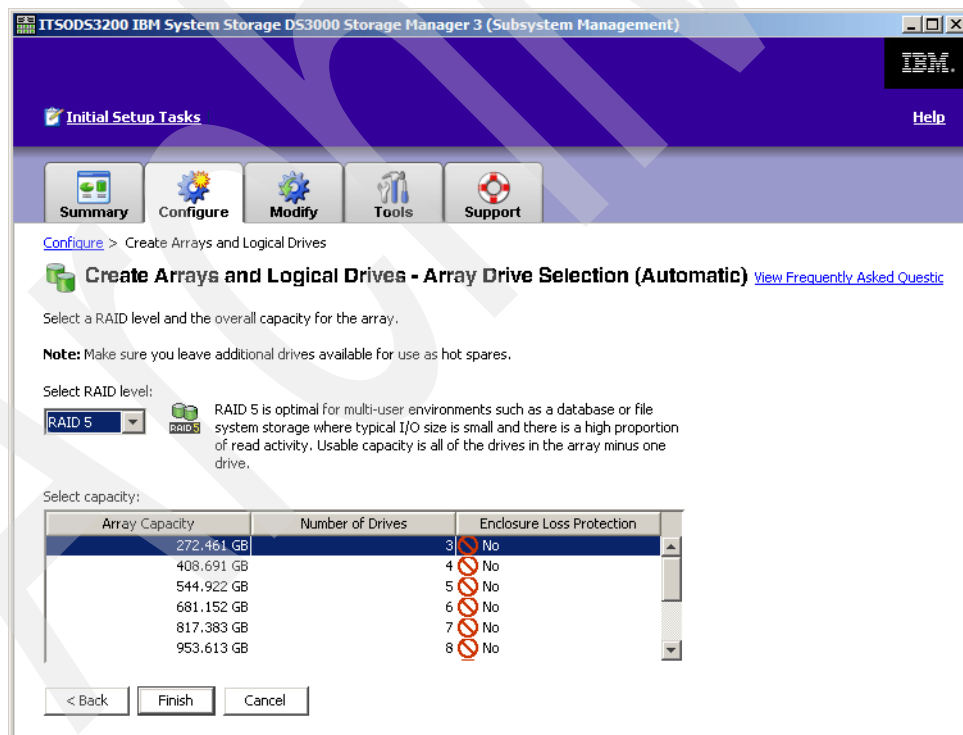

Figure 20-20 RAID Selection
5. Select the RAID level from the drop-down list. In our example, we use RAID 5 for the boot volume, as shown in Figure 20-20. Click **Finish**.